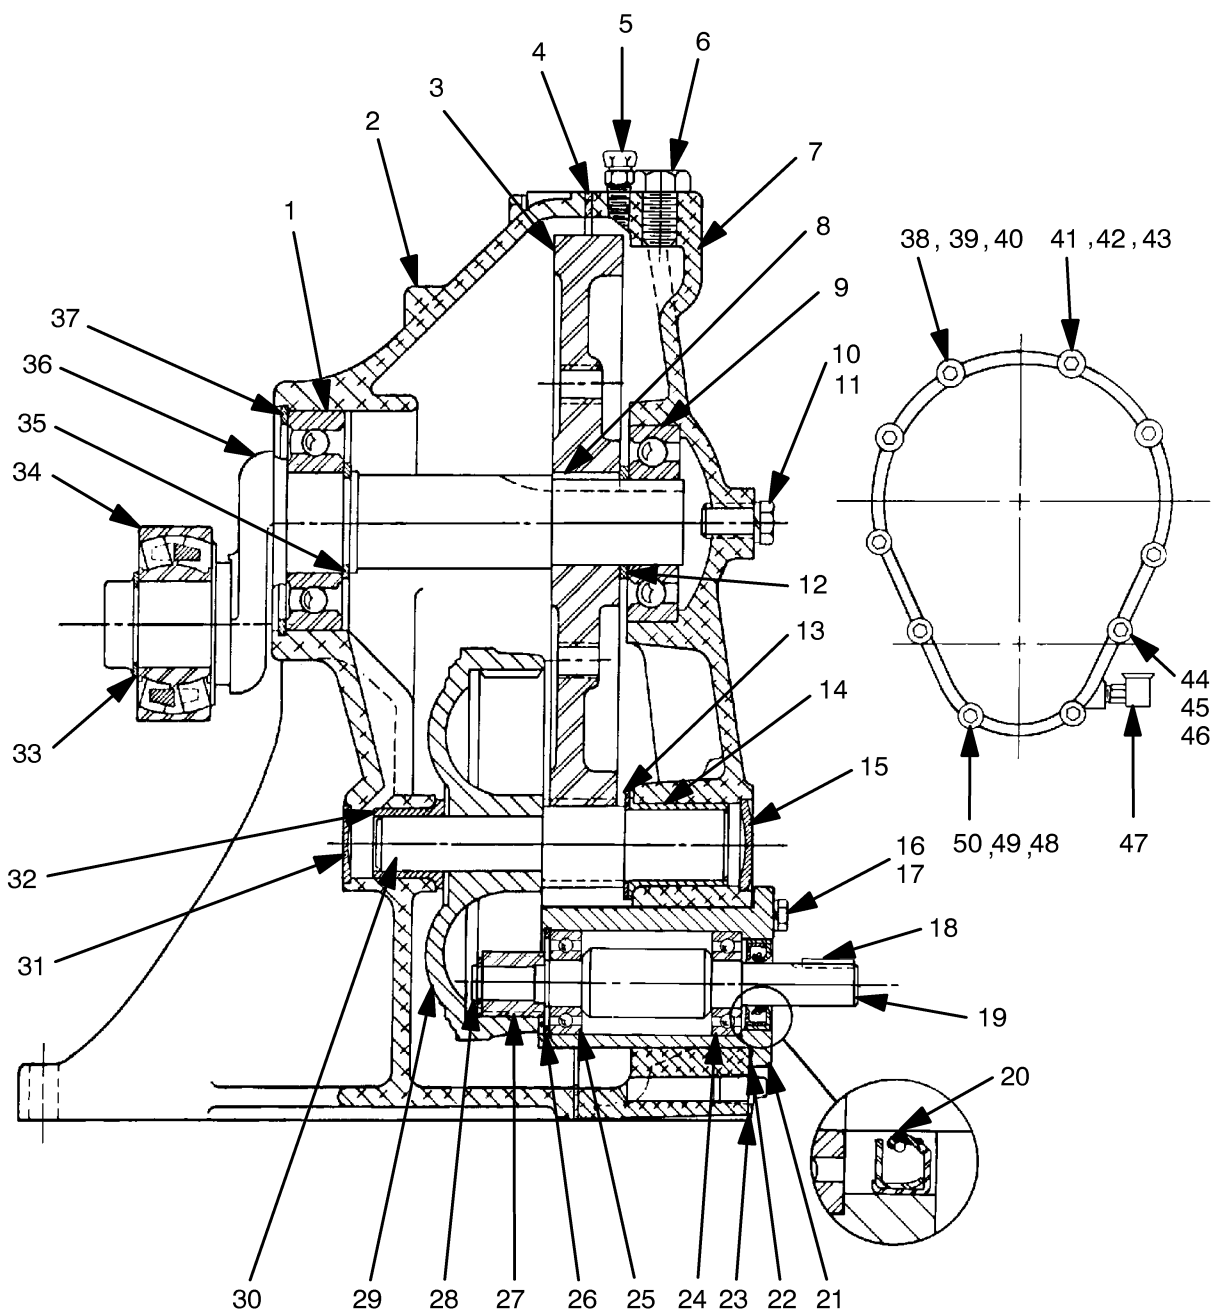

Figure 4. 44161-009 Gearbox Assembly
With the diaphragm pot assembly and diaphragm removed, loosen the hardware (2, 3 and 4) and remove the end cap (27, Figure 1). Slide the bearing cap (1) off the crankshaft roller bearing (34, Figure 4), and remove the plunger rod assembly.
Disengage the hardware (19, 20, 21 and 22) and remove the coupling guard (4). Loosen the hardware securing the drive shaft coupling (1). Separate the gearbox assembly from the coupling by pulling straight away. Remove the shaft key (18, Figure 4).
(Figure 4)